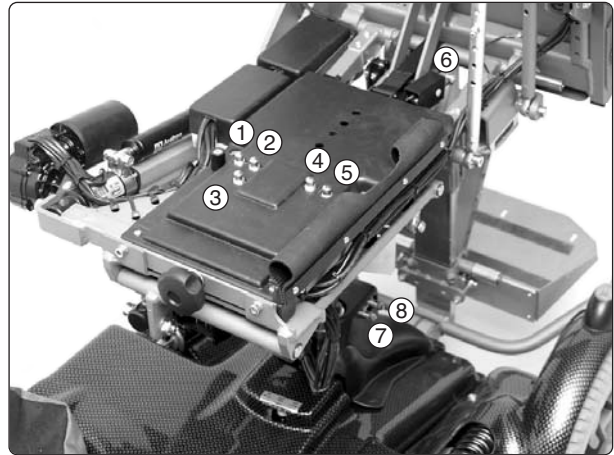
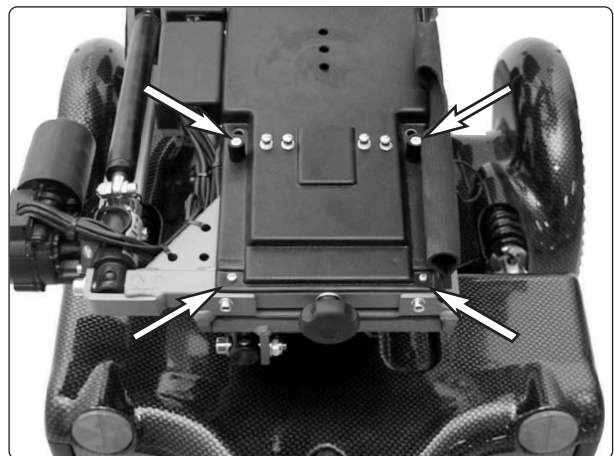
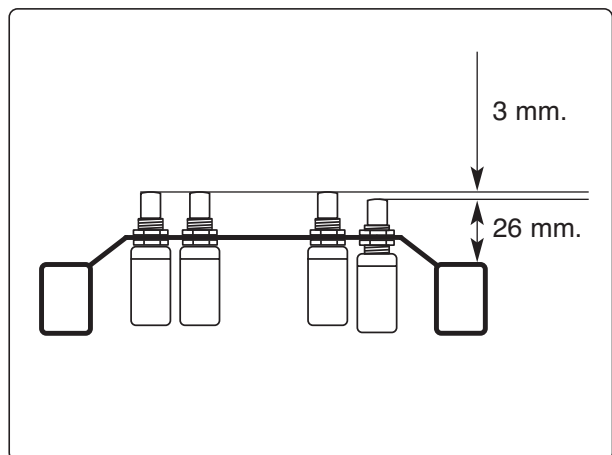

Fig. 56. Sensors
Fig. 57. The cover is mounted using four screws.
Fig. 60. The sensor for the Stand-down stop switch is mounted 3 mm under the other sensors.
3. When replacing the sensors numbered 1-5 (see Fig. 56), remove the cover surrounding the sensors. It is mounted using four screws, see Fig. 57. The sensors numbered 7-8 (see Fig. 56) are located under the seat lift cover. The cover is mounted using four plastic plugs. Remove the cover by taking out the plastic plugs. For more information, see the chassis service manual.
Mounting is performed in the reverse order. Sensors 1-4 (see Fig. 56) are mounted at a height of 29 mm from the frame side member, see Fig. 60. Sensor number 5 (see Fig. 56) is mounted at a height of 26 mm from the frame side member, see Fig. 60. Other sensors are mounted so that they protrude as far as possible.